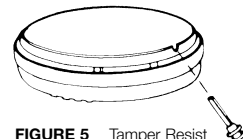

FIGURE 5 Tamper Resist Locking Pin
7. USING TAMPER RESIST LOCKING PIN: To make your smoke alarm somewhat tamper resistant, a locking pin has been provided in the bag with the screws and anchors. Using this pin will deter children and others from removing the alarm from the mounting plate. To use the pin, insert it into the hole in the side of the alarm after the alarm has been installed on the mounting plate (see Figure 5).